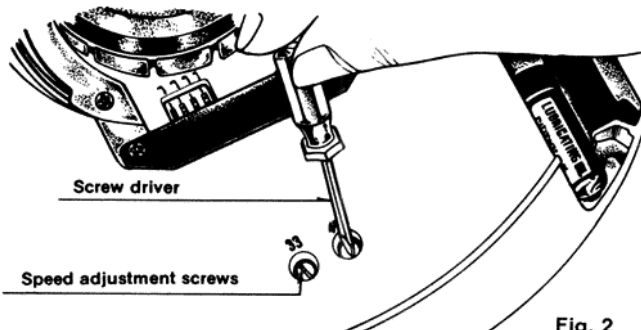

Fig. 2
## ② SPEED ADJUSTMENT (with speed adjustment screws) (See Fig. 2)